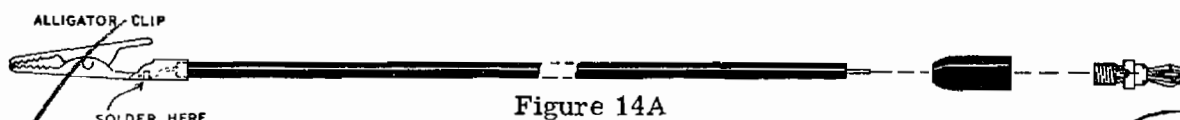

Figure 14A
- (✓) At the opposite end, connect one wire to pilot socket BM1 (S) and the other to BM2 (S). Dress the wires away from all components as shown.
- (✓) Pass a line cord through hole AH and connect one of the wires to terminal strip X2 (S) and the adjacent wire to socket E2 (S).
- (✓) Connect the wire previously identified with a marked tape or by bending to the + meter terminal BK1 (S).
- (✓) Connect the remaining wire appearing through grommet AF to terminal BK2 (S).
- (✓) At one end of each of the four leads solder an alligator clip in place. Refer to Figure 14A.
- (✓) At the other ends of the four leads, install banana plugs, red on the red leads, and black on the black leads. Refer to Figure 14A.